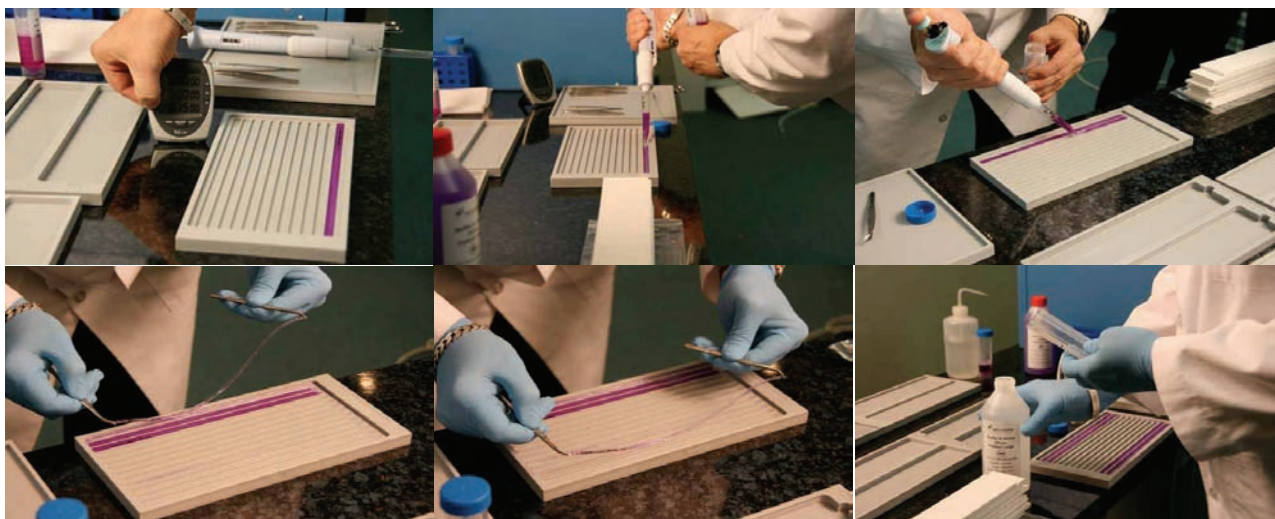

Fig. 5.2: Equilibration of the IPG-strips in 6 mL equilibration buffer.
3. Equilibrate each IPG-strip (gel-side up) in 6 mL solution in a **gel**company equilibrator (cat# 1003-04; fig. 5.2) on an orbital shaker with 30 rev/min: